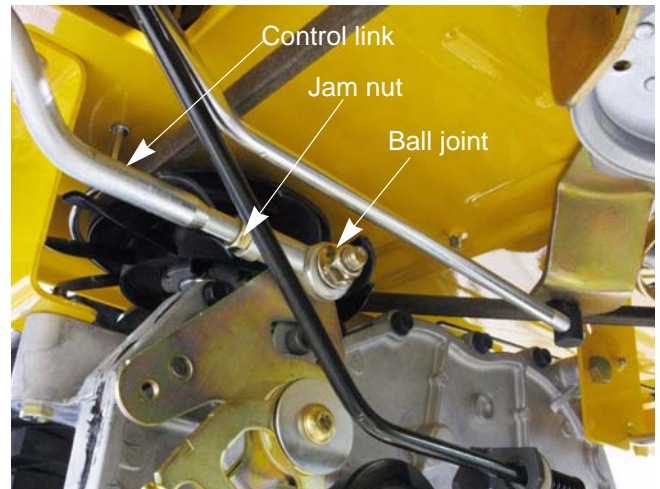

Figure 5.2
7. Disconnect the control links from the control arms of the transmissions using a pair of 9/16" wrenches. See Figure 5.2.